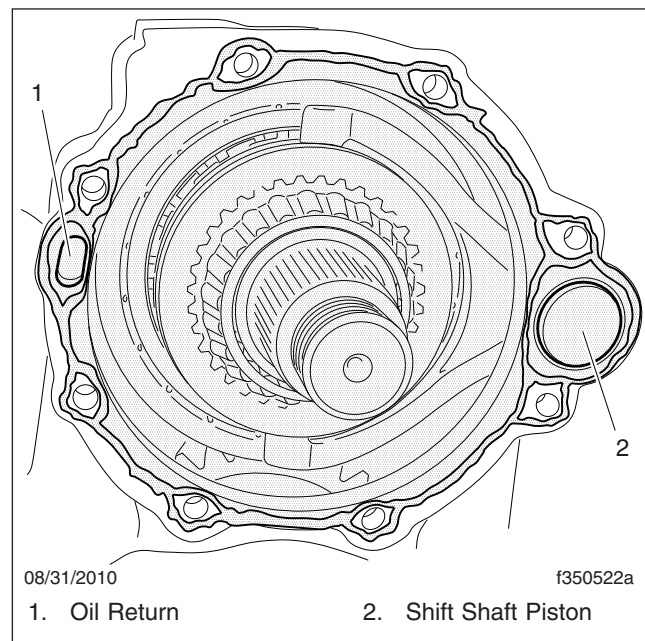

Fig. 11, Sealant Applied to Carrier Housing
30. Apply a small bead of Loctite 5900 to the carrier housing. See Fig. 11. To help ensure a good seal, spread it uniformly over the surface area.